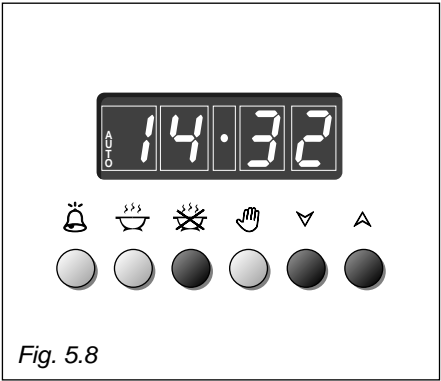

Fig. 5.8
2. Set the end of the cooking time by pushing the  button and the  button to advance, or  to go backwards if you have passed the desired time (Fig. 5.8).